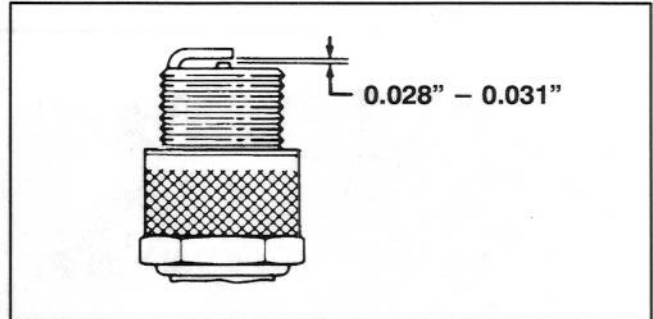

Figure 29
3. Set air gap at  $0.028'' - 0.031''$  (Fig. 29). Install correctly gapped spark plug and tighten firmly to 20 ft-lb.